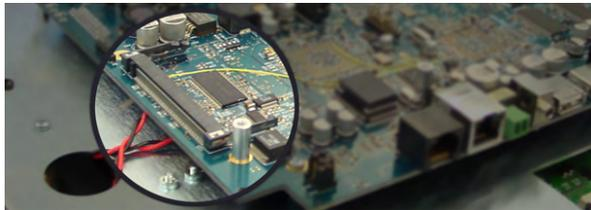

FIG. 4 Location of the mini-PCI card connector on main board
1. Discharge static electricity from your body by touching a grounded metal object and locate the mini-PCI card connector on the main board (FIG. 4).
3. Firmly grasp the NXA-PCI80211G mini-PCI card (from the edges) and insert the pins (at a 25° angle) into the opening on the connector (FIG. 4).